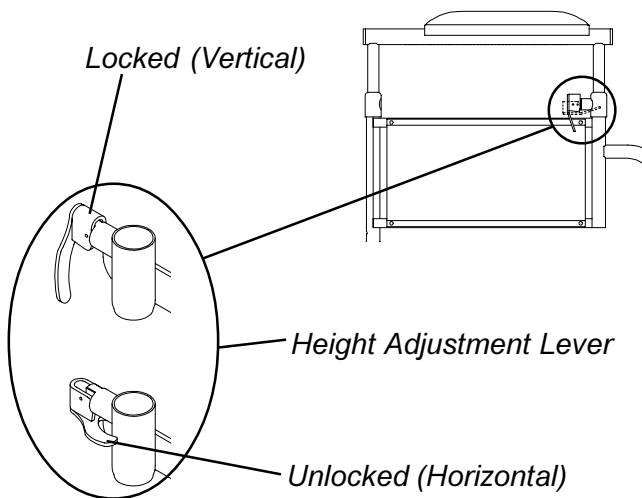

FIGURE 1 - ADJUSTING ARMREST HEIGHT - ADJUSTABLE HEIGHT ARMS ONLY - WHEELCHAIRS EQUIPPED WITH HEIGHT ADJUSTMENT LEVERS
Wheelchairs Equipped With Height Adjustment Levers (FIGURE 1)
1. Unlock the armrest by pulling the height adjustment knob on the front of the armrest and twisting it 1/4-turn into the **UNLOCKED** position (FIGURE 1).
2. Adjust armrest to one (1) of four (4) OR five (5) positions (depending on model type).
3. Lock the armrest by pulling the height adjustment knob on the rear of the armrest and twisting it 1/4-turn into the **LOCKED** position as in FIGURE 1.